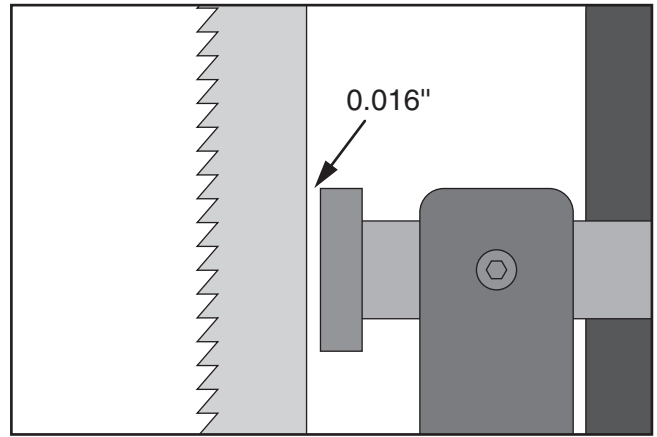

Figure 22. Blade should be aligned approximately 0.016" away from the bearing edge.
6. Place a 0.016" feeler gauge between the support bearing and the blade, and position the bearing 0.016" away from the back of the blade, as illustrated in **Figure 22**.